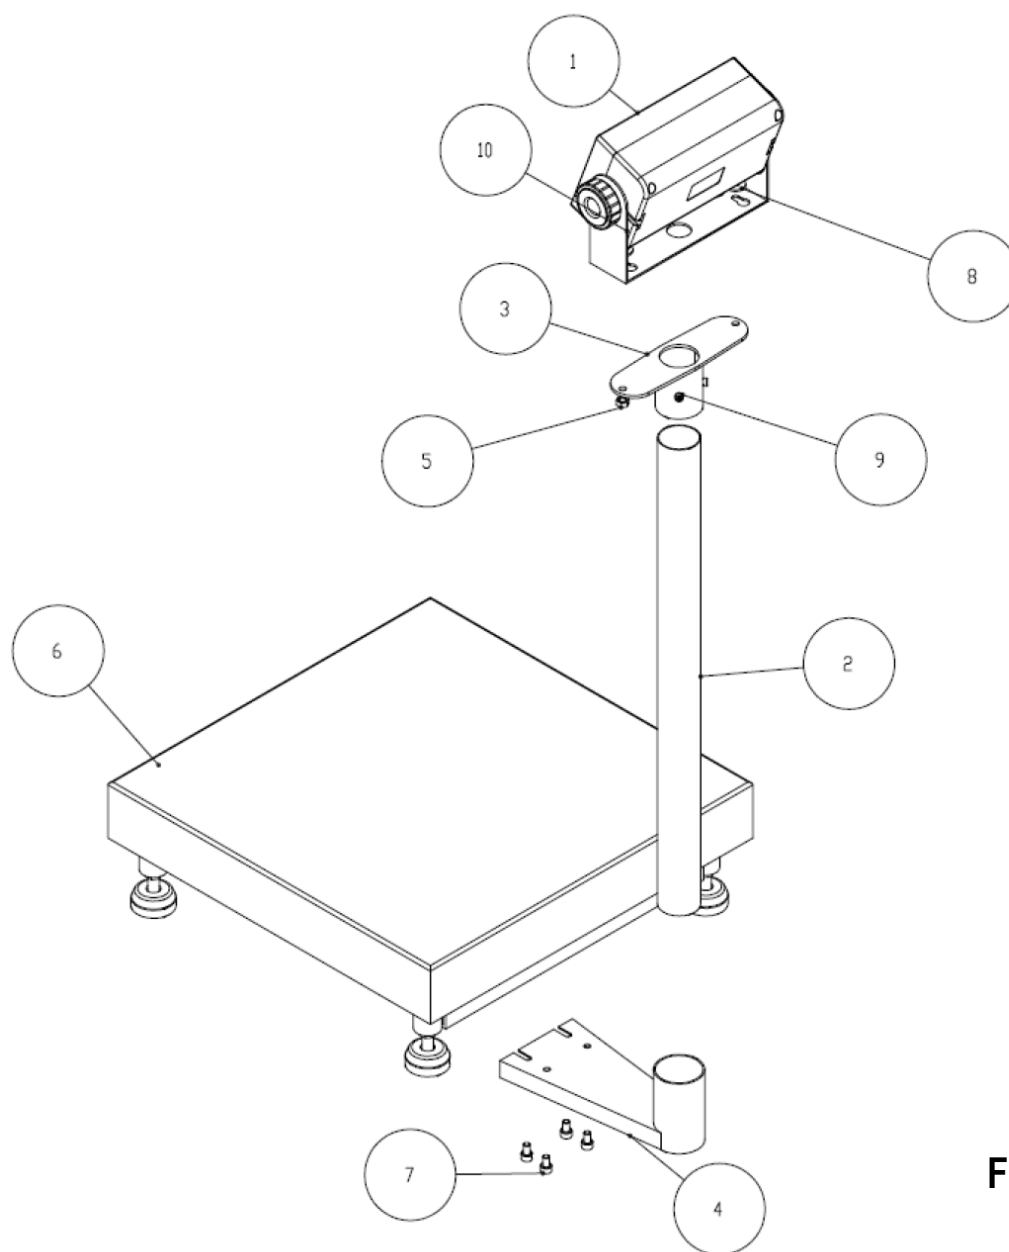

Fig.3
2.3 ASSEMBLING PB+PBCL...+PBCLST+DFWLI (WALL-E) (FIG.3)